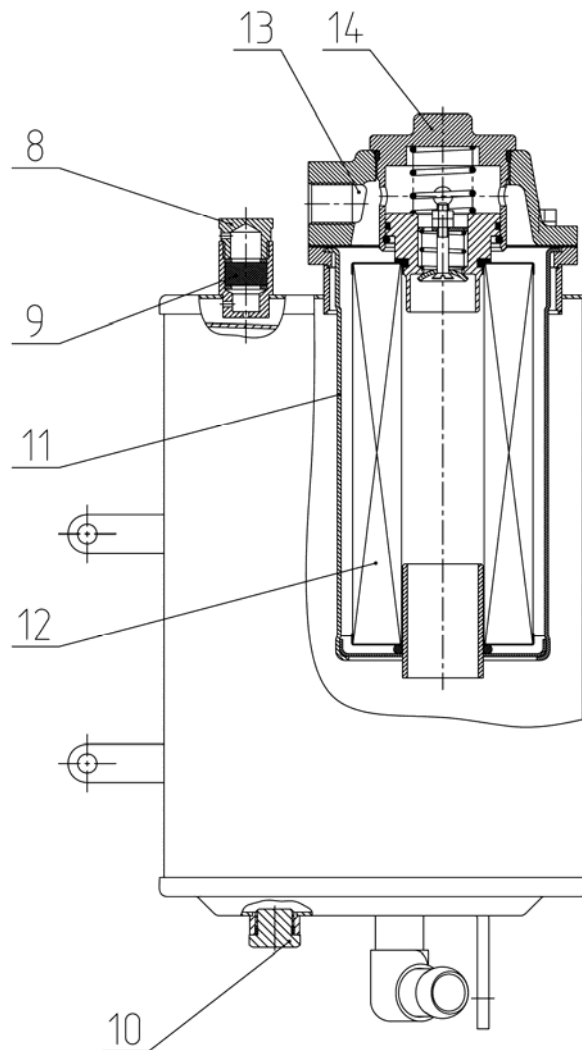

Figure 7.5 6 HSC tank of tractor “BELARUS-1221.4 Deutz”
Figure 7.5 a
- a) unscrew drain plug 10 (Figure 7.5 b) of HSC oil tank 2 (Figure 7.5 a) and oil out of it;
- b) disconnect hose 1 (Figure 7.5 a), having loosened collar 3;
- f) unscrew filler plug together with safety valve 14 (Figure 7.5 b), wash it diesel fuel and put back in place;
Mount HSC oil tank on tractor in reverse order. Copper rings of valve 7 (Figure 7.5 a) replace for new ones. Oil is filled in oil tank via filter 12 (Figure 7.5 b) by unscrewing filler plug 14.